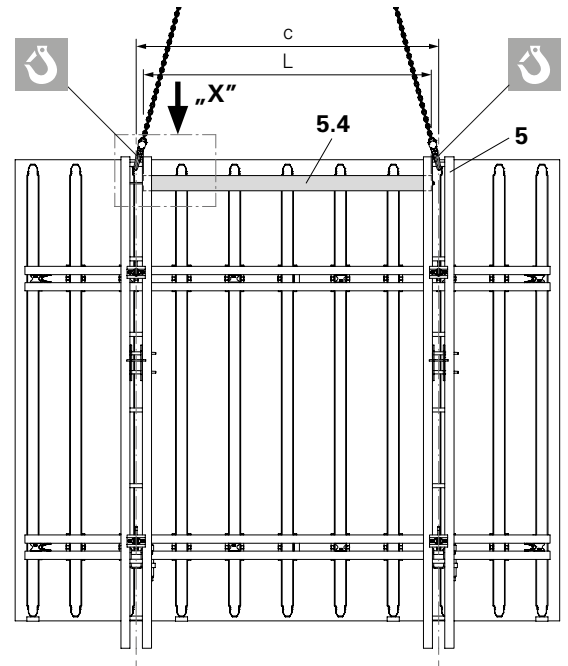

Fig. A3.02
- Check the spacing of the Strongback (corresponds to bracket spacing c) at the bottom end and correct if necessary. (Fig. A3.02)
(Fig. A3.02 + A3.02a)